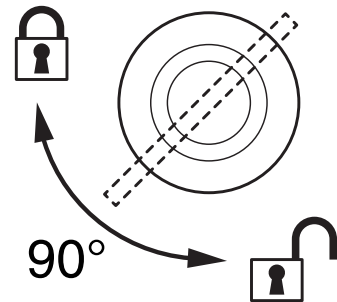

Figure 7: Locking 1/4-turn fasteners
4. Align a clamp with 2 mounting points in the base. See Figure 7. Insert the fasteners into the base and turn both levers a full 90° clockwise to lock. Install the second clamp.